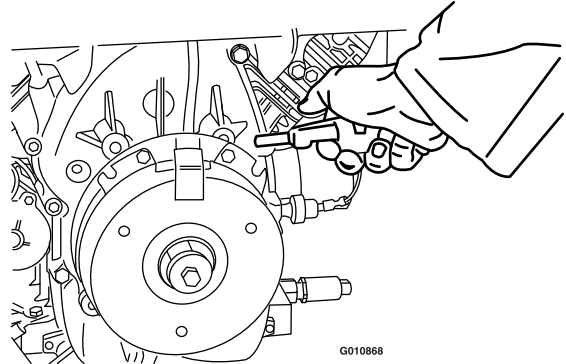

**Figure 64**
3. Remove the dust cap from caster and tighten the locknut (Figure 64).
4. Tighten the locknut until the spring washers are flat and then back off a 1/4 turn to properly set the pre-load on the bearings (Figure 64).
**Important:** Ensure the spring washers are installed correctly as shown in Figure 64.
5. Install the dust cap (Figure 64).